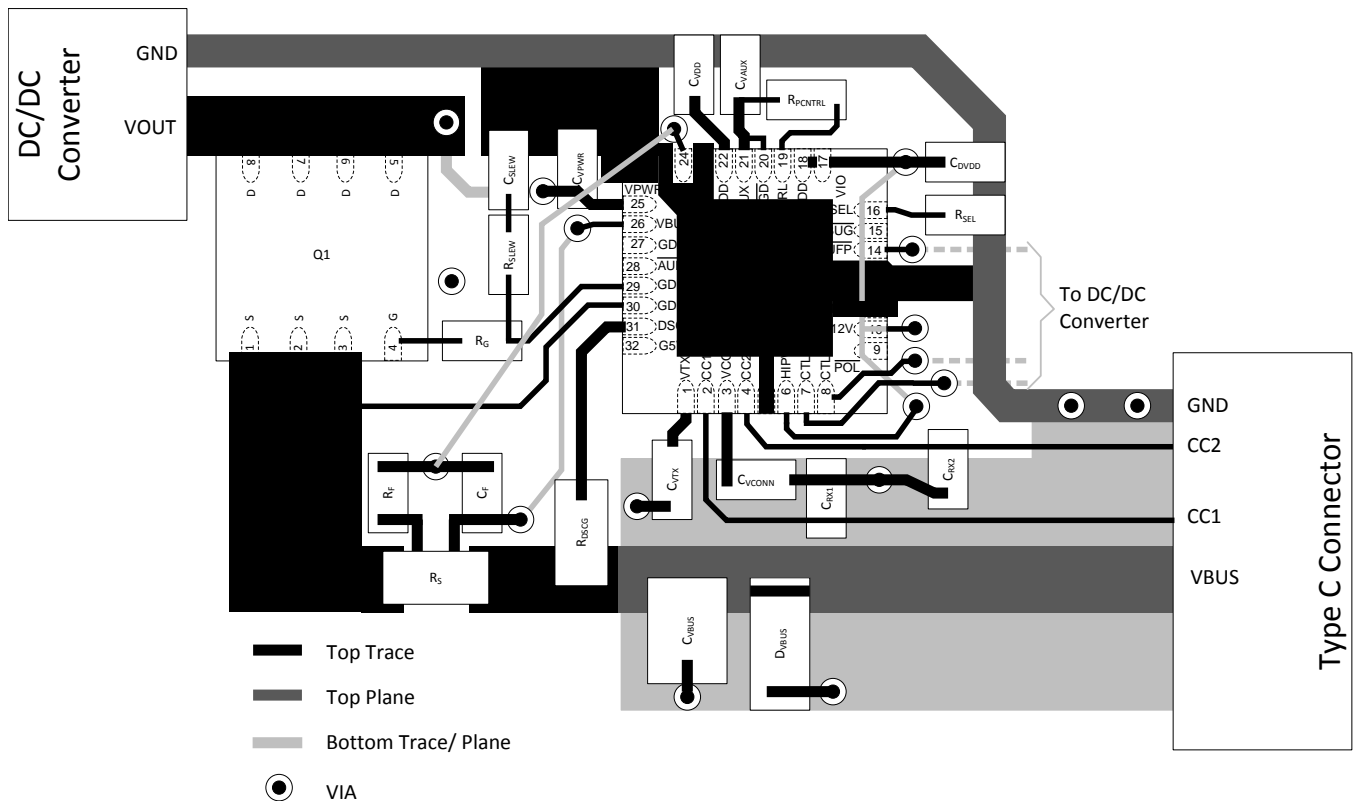

Figure 74. Layout Example
- $C_{VPWR}$ : Place close to pin 25 (VPWR) and connect with low inductance traces and vias according to Figure 74.
- $C_{VDD}$ : Place close to pin 22 (VDD) and connect with low inductance traces and vias according to Figure 74.
- $C_{VCONN}$ : Place close to pin 3 (VDD) and connect with low inductance traces and vias according to Figure 74.
- $C_{DVDD}$ : Place close to pin 18 (DVDD) and connect with low inductance traces and vias according to Figure 74.
- $C_{VIO}$ : Place close to pin 17 (VDD) and connect with low inductance traces and vias according to Figure 74.
- $C_{VAUX}$ : Place close to pin 21 (VAUX) and connect with low inductance traces and vias according to Figure 74.
- $C_{VTX}$ : Place close to pin 1 (VTX) and connect with low inductance traces and vias according to Figure 74.
- $R_S$ : Place  $R_S$  as shown in Figure 74 to facilitate uninterrupted power flow to the Type C connector. Orient  $R_S$  for optimal Kelvin sense connection/routing back to the TPS25741 or TPS25741A. In high current applications
- $R_G$ : Place  $R_G$  near  $Q_1$  as shown in Figure 74. Minimize stray leakage paths as the GNDG sourcing current could be affected.
- $R_{SLEW}/C_{SLEW}$ : Place  $R_{SLEW}$  and  $C_{SLEW}$  near RG as shown in Figure 74.
- $R_F/C_F$ : When required, place  $R_F$  and  $C_F$  as shown in Figure 74 to facilitate the Kelvin sense connection back to the device.
The basic component placement and layout is provided in Figure 74. This layout represents the circuit shown in Figure 41. The layout for other power configurations will vary slightly from that shown below.